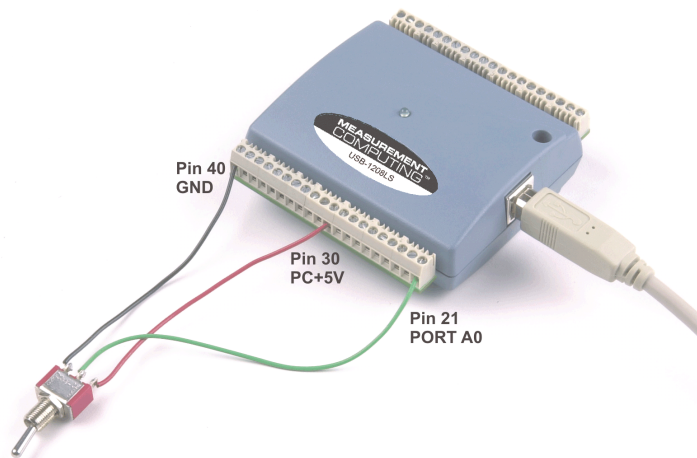
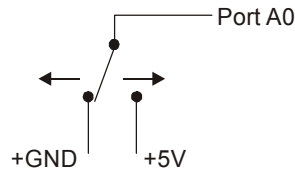

Figure 3-8. Digital connection Port A0 detecting the state of a switch
Figure 3-9. Schematic showing switch detection by digital channel Port A0
When you configure the digital bits for input, you can use the digital I/O terminals to detect the state of any TTL level input. Refer to the switch shown in Figure 3-8 and the schematic shown in Figure 3-9. If the switch is set to the  $+5\text{ V}$  input, Port A0 reads *TRUE* (1). If you move the switch to GND, Port A0 reads *FALSE*.